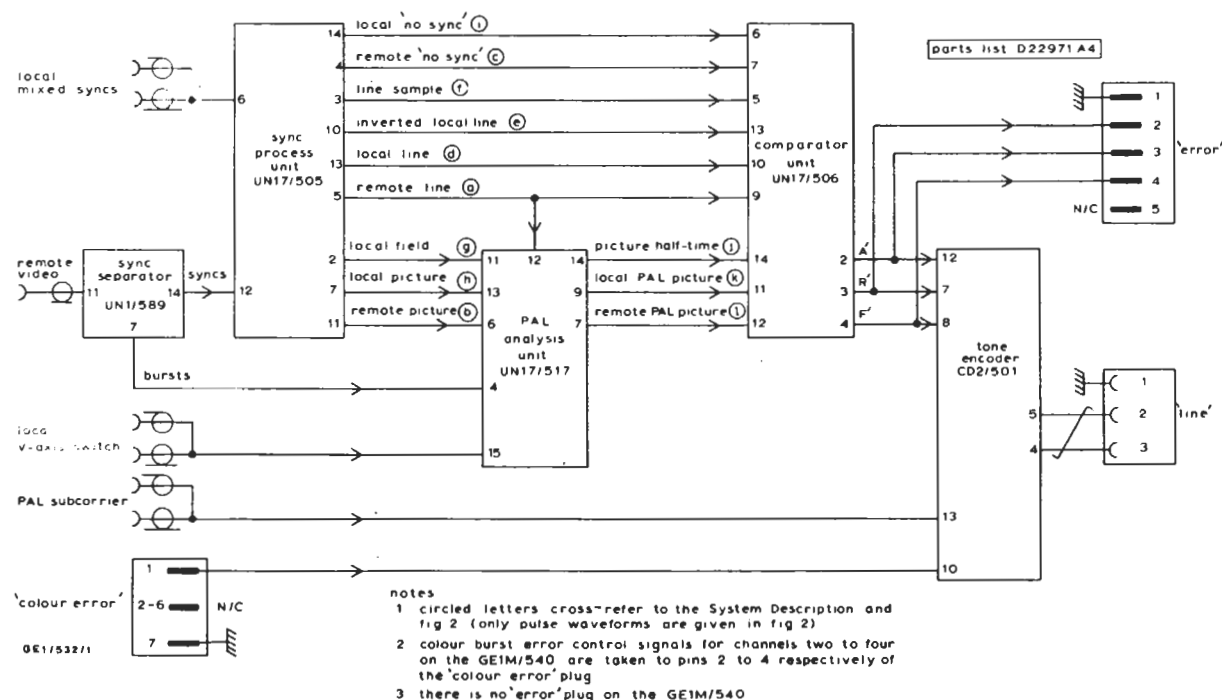

Fig. 1. Block diagram of the GE1L/532 and of one channel of the GE1M/540
The block diagram of the GE1L/532 is given in Fig. 1. This is identical with one channel of the GE1M/540, except as noted. Waveforms relating to some of the inter-unit signal paths and to the pulses listed below are given in Fig. 2.
- 1 circled letters cross-refer to fig 1 and to the System Description